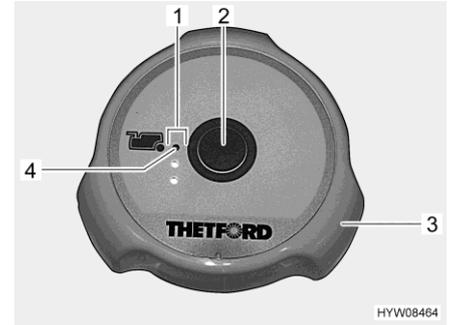

Fig. 135 Flush button/indicator lamps (Thetford toilet)
Flushing: ■ Before flushing open the sliding trap of the Thetford toilet. To do this, turn the rotary handle (Fig. 135,3) in an anticlockwise direction.
■ For flushing, press the blue flush button (Fig. 135,2).
■ After flushing close the sliding trap. To do this, turn the rotary handle (Fig. 135,3) in a clockwise direction.
The indicator lamps (Fig. 135,1) show the filling level of the sewage tank. The red indicator lamp (Fig. 135,4) lights up whenever the sewage tank has to be emptied.